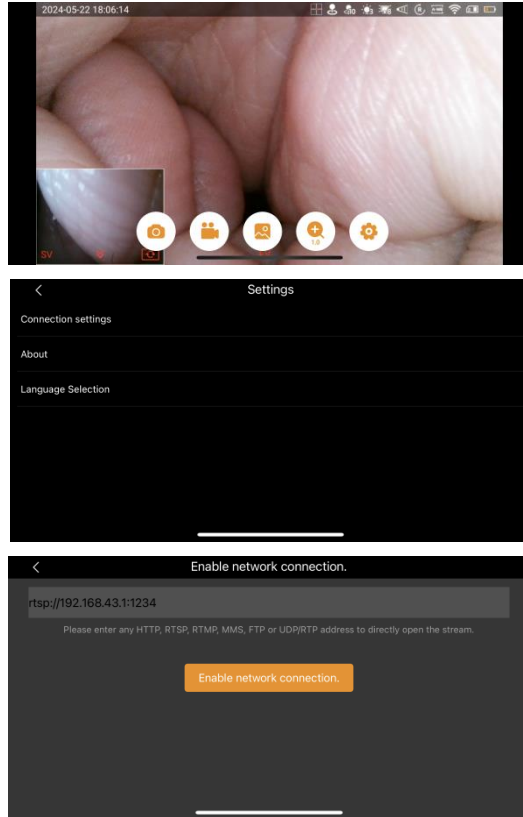

Figure 8-32
3. Click the "Settings" icon, enter "Connection Settings", enter the URL: rtsp://192.168. 43. 1 : 1234 , click "Open Network Serial", and wait for connection (as shown in Figure 8-32).